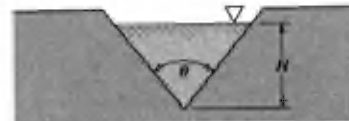

FIGURE P7.4R
7.4R (Determination of Pi terms) The flowrate,  $Q$ , in an open canal or channel can be measured by placing a plate with a V-notch across the channel as illustrated in Fig. P7.4R. This type of device is called a V-notch weir. The height,  $H$ , of the liquid above the crest can be used to determine  $Q$ . Assume that